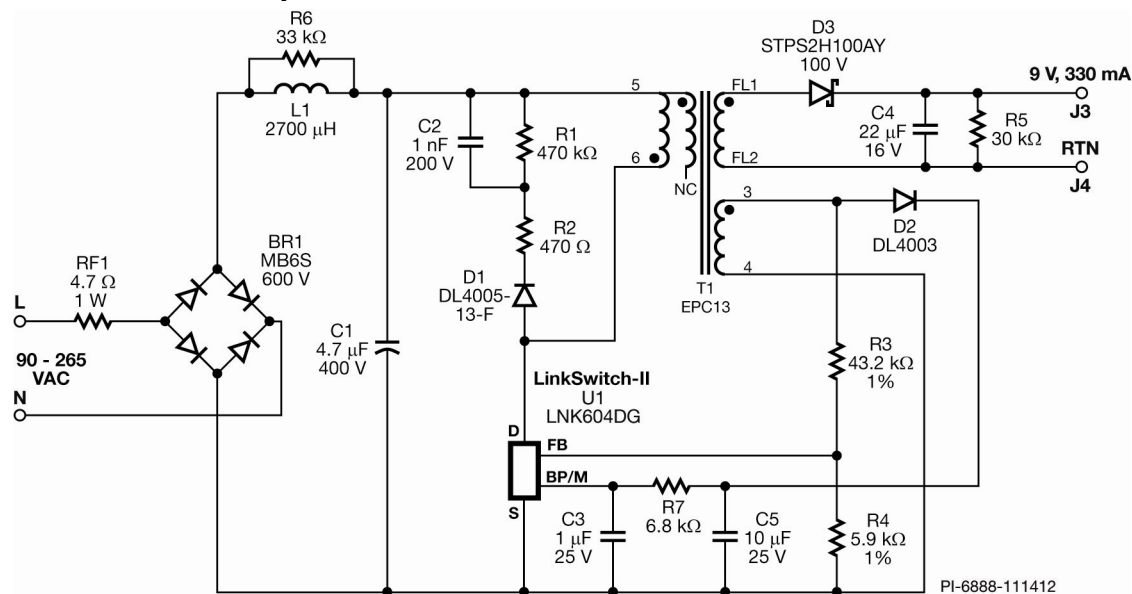

Figure 3B – Schematic (With Optional Clamp Circuit, for 1 kV Surge).
The clamp circuits, C2, R1, R2, D1 in Figure 3B, reduce the maximum drain voltage to be less than 700 V when 1 kV fast differential surge is applied.
6.2 Clamp Design Bill of Materials (Figure 3B)